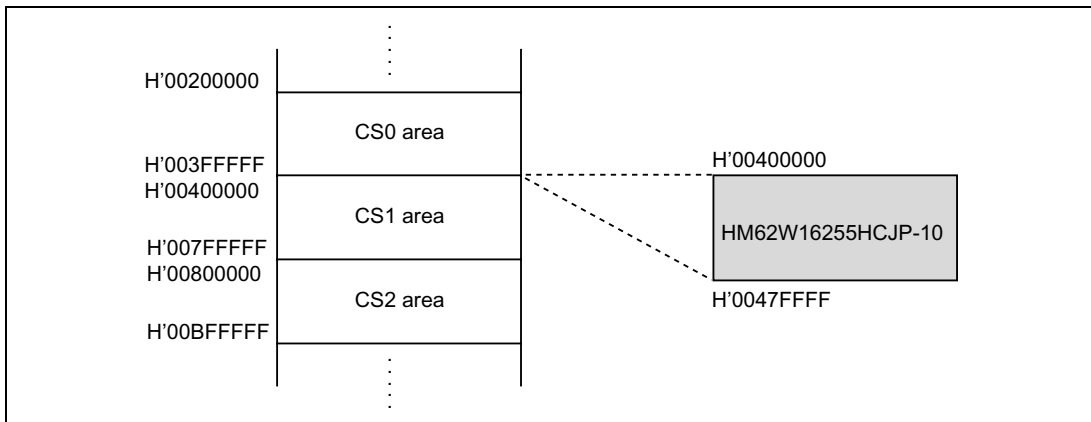

Figure 2.8 Memory Map
(2) Of the memory on the SH7145, area 1 (H'00400000 to H'007FFFFFFF) is allocated, as shown in figure 2.8.